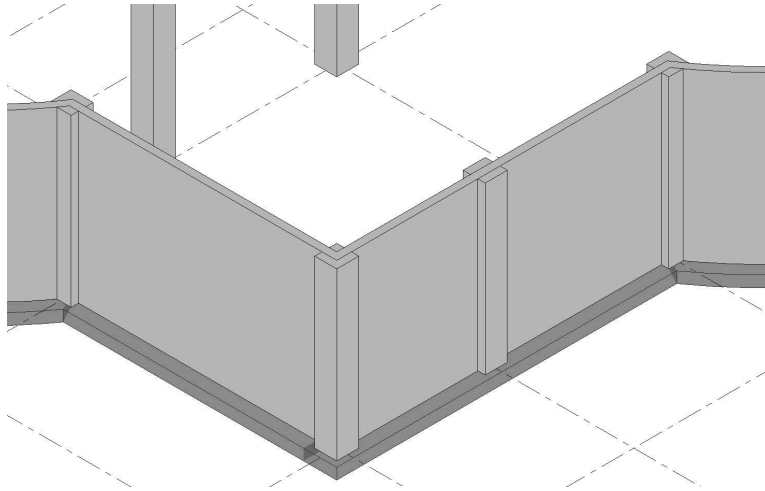

Figure 7–52
6. In the Quick Access Toolbar, click  (Default 3D View) to activate the **{3D}** view. Verify that the footing is placed correctly, as shown in part in Figure 7–52. Change the visual style as needed.